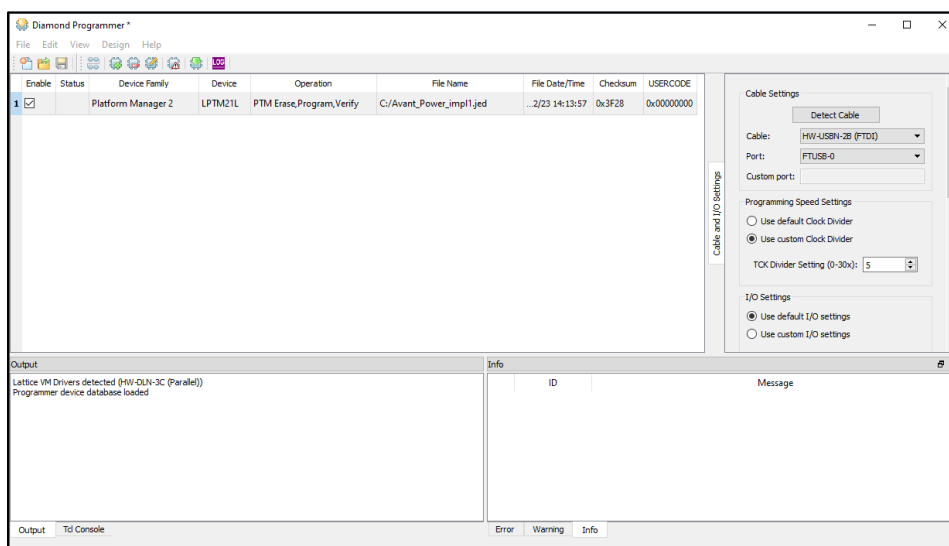

Figure 4.1. Lattice Diamond Programmer
4. The Lattice Diamond programmer interface opens as shown in Figure 4.1.